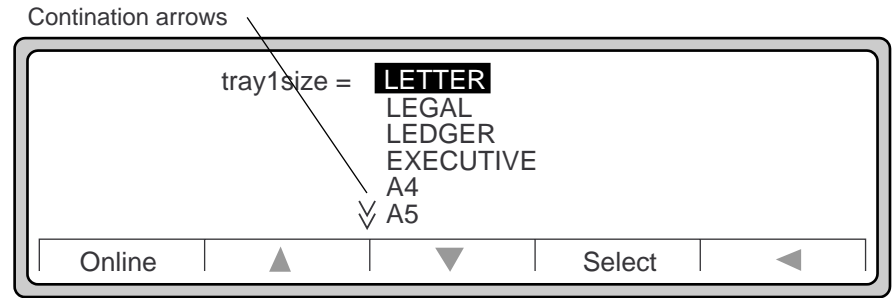

Figure 3-15 Paper size selections
3. Press ► to get a list of paper sizes for this tray, as shown in Figure 3-15.